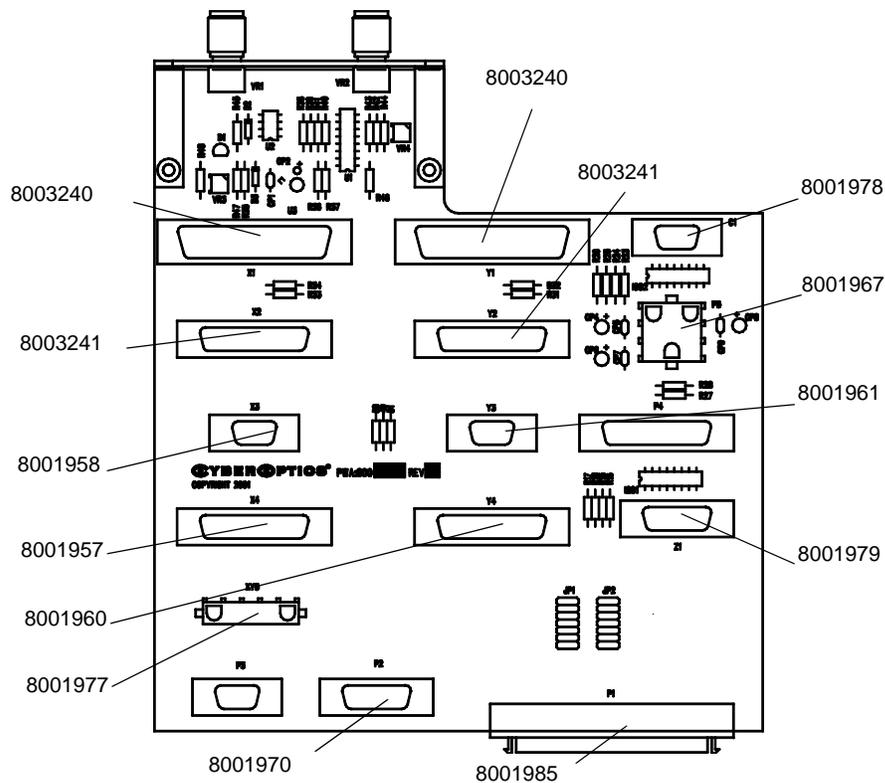

Figure 77. Distribution Board Cable Connections
4. Reconnect the cables. Figure 77 shows the cable connections (by cable part number) on the Distribution board.